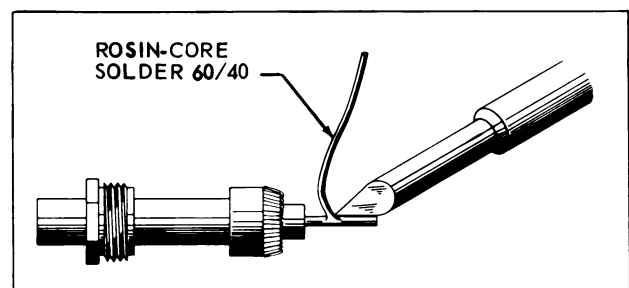

Figure 4-10. Tinning Center Conductor
4-21. Tin center conductor with soldering iron as shown in Figure 4-10.
oxidized wire cannot be cleaned by rosin flux and should be discarded. The usual solder is an alloy of 60% tin and 40% lead extruded in wire form with a core of rosin flux. Solder is applied to the parts to be joined after heating them with a soldering iron. The solder is best applied at the junction of the tinned tip and the work. This forms a bridge of molten metal which helps to transfer the proper amount of heat to the joint. See Figure 4-10. After the joint has cooled, remove excess flux by wiping with a clean cloth. Use alcohol as a solvent, if necessary. If excess solder is deposited on the contact, remove by scraping with a knife. Be careful not to cut into contact or dielectric.
h. Tin center conductor as shown in Figure 4-10.